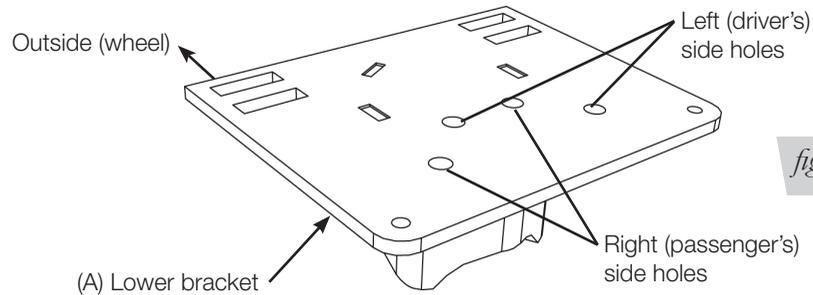

fig. 5
If there is no fifth-wheel hitch or a hitch that does not have a plate running alongside the full length of the frame (these will have an "L" bracket forward and behind the axle leaving the middle frame open) use the 1/2"-13 x 2" hex cap screw (HH) with a flat washer (R) through the slot in the side of the frame, then through another flat washer (R) and finally through the upper brace. Cap with a flat washer (R) and a 1/2"-13 nylon lock nut (X) (Fig. 5). Leave loose at this time.
Insert a 1/2"-13 x 3" hex cap screw (O) with a flat washer (R) through the fifth-wheel plate previously drilled, the frame, then through another flat washer (R) and finally the upper brace. Cap with a flat washer (R) and a 1/2"-13 nylon lock nut (X) (Fig. 5). Leave loose at this time.
2. Install the swivel elbow fitting (Z) into the top of the air spring finger tight. Tighten the swivel fitting 1 1/2 turns.
3. The lower bracket (A) has two sets of air spring mounting holes. Using the corresponding holes in the lower bracket designated (Fig. 5), attach the air spring to the brackets using the 3/8" flat washers (W or II), lock washers (U), and 3/8"-24 x 7/8" hex-head cap screws (N). Torque both mounting screws to 20 lb.-ft. (27Nm).